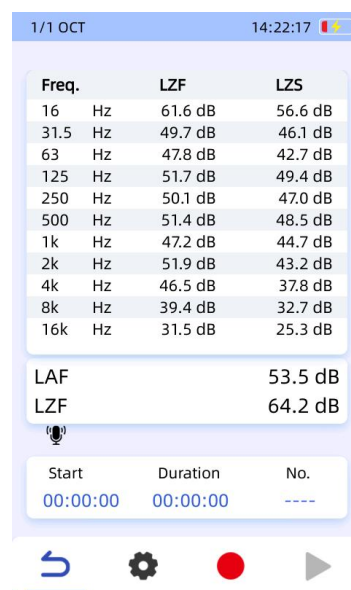

Fig 6.35 Data Mode
- a. **Manual Mode:** Users manually start and stop measurements from the main interface's operation button area. In this mode, as shown in Figure 6.35, the test can only be controlled manually by the user, making any time settings in the testing mode configuration ineffective and uneditable.